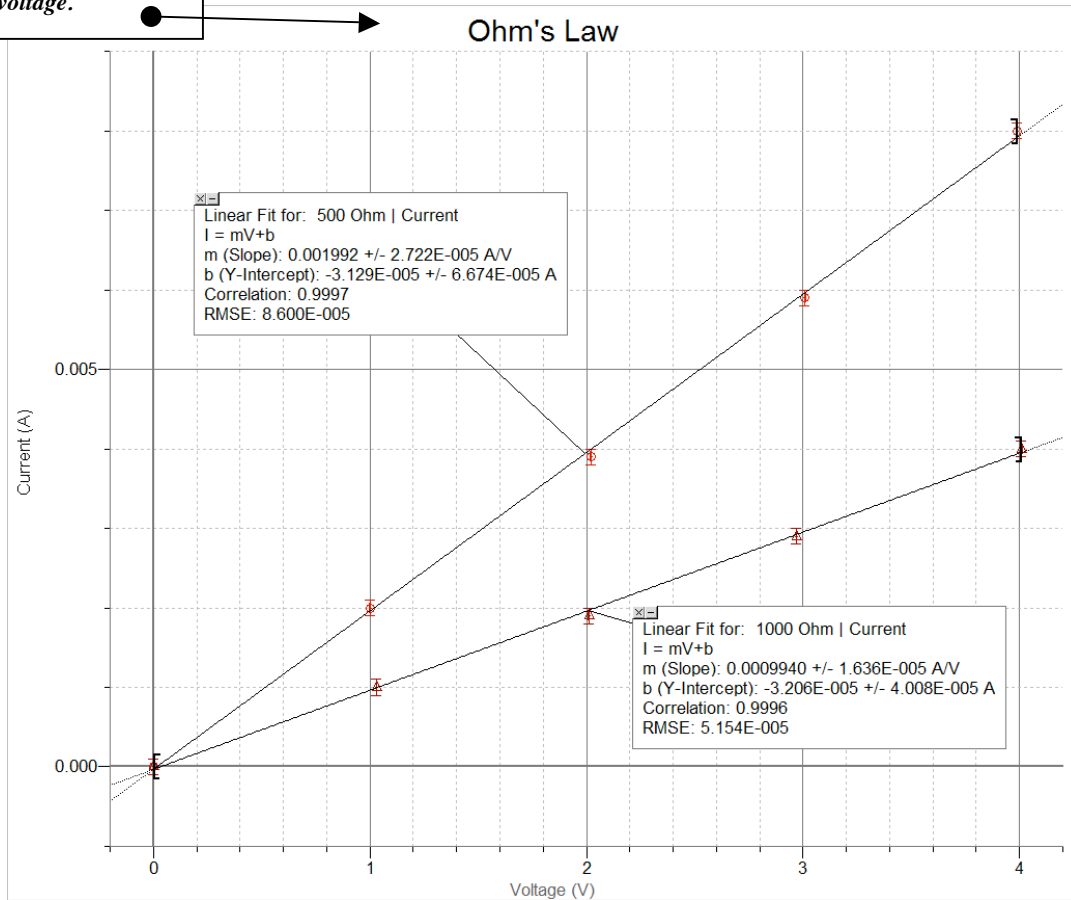

Fig. B-3
- Appropriate Analysis (refer to Fig. B-3)
Refer to the “Information Box” on the graph. The value of the unknown quantity can be determined, although it may require some algebra. Calculate the necessary quantities. Refer to Fig. B-3.